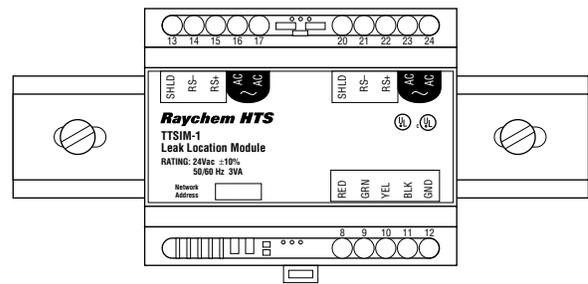

Figure 1. DIN Rail Mount
- Note: When properly oriented, there will be two terminal strips on the top of the module and one on the bottom. See Figure 1.